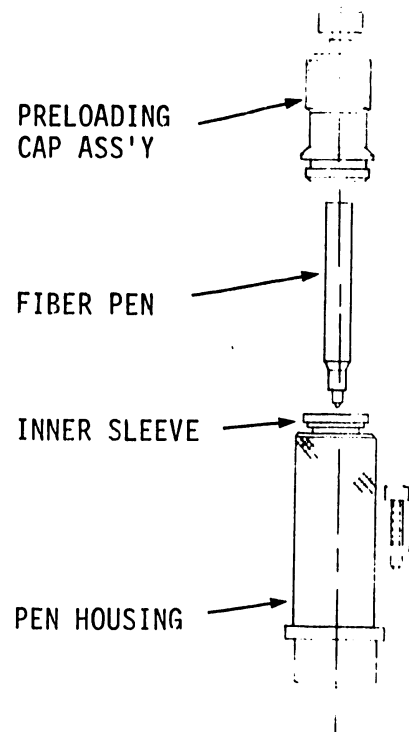

FIGURE 1
5.2 LOADING PROCEDURE FOR FIBER PEN - FIGURE 1